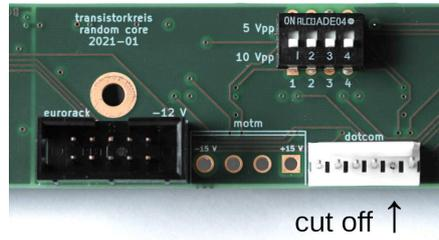

Figure 7: DIP switch and power connectors.
- that you solder all components onto the PCB side where the outline of the respective component is marked, see figure 7 and 8,
- that the orientation of the power connectors J1 and J3 is correct, see their component outline on the PCB and figure 7.
Pin 2 of the Moog power connector J1 must be cut off with a small side cutter. This pin is marked on the PCB and in figure 7.